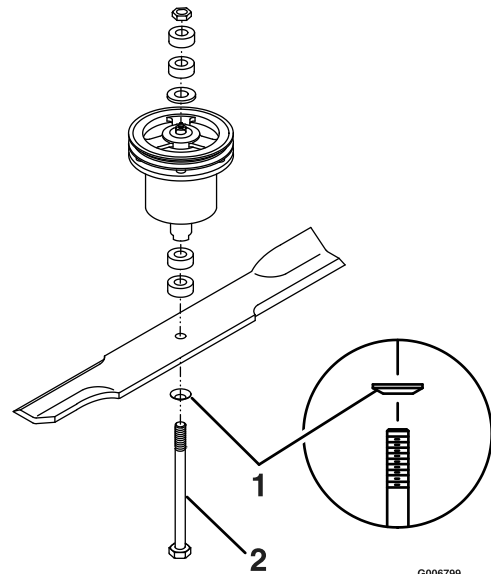

Figure 6
4. Re-install the blades (if they were removed) and torque blade bolts to 75-80 ft-lb (102-109 N-m). Be sure the spring disc washer cone is installed toward the bolt head (see Figure 6).